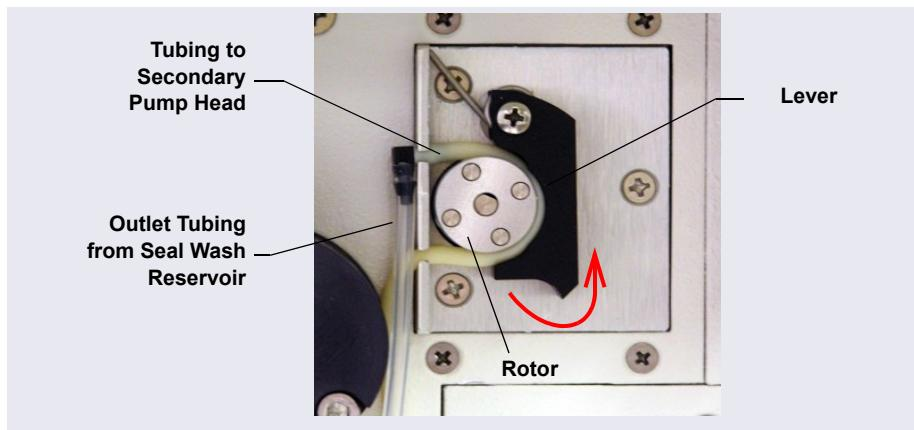

Figure 4-4. Peristaltic Pump
4. Check that the tubing is engaged in the peristaltic pump (see Figure 4-4). If it is not, lift the lever on the peristaltic pump up and to the right, insert the tubing neatly between the lever and the rotor, and release the lever to secure the tubing.